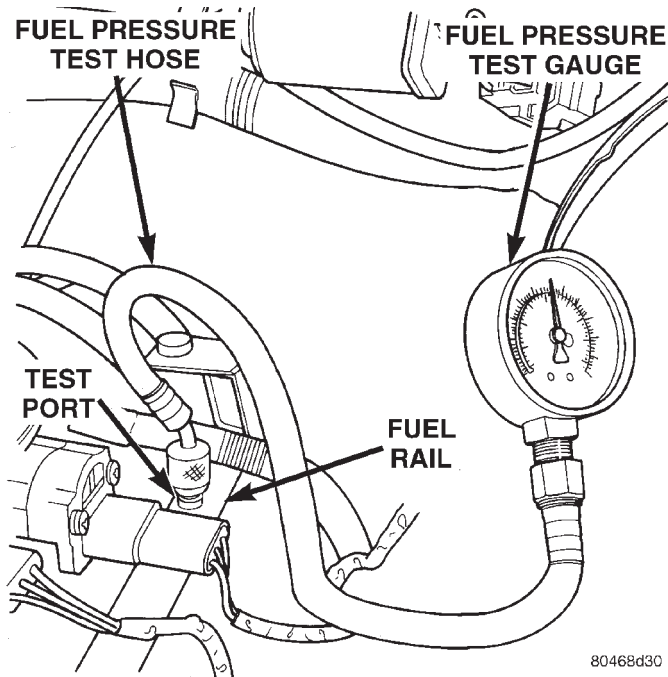

Fig. 8 Fuel Pressure Test Port—5.2L/5.9L Engines—Typical
NOTE: The fuel pressure test port is used on certain engines only. On 5.2L/5.9L engines, and when equipped, the test port will be located on the fuel rail near the throttle position sensor (Fig. 8). A sealing cap is screwed onto the test port.
(1) Remove the protective cap at the fuel rail test port. Connect the 0–414 kPa (0–60 psi) fuel pressure gauge (from gauge set 5069) to the test port pressure fitting on the fuel rail (Fig. 8).